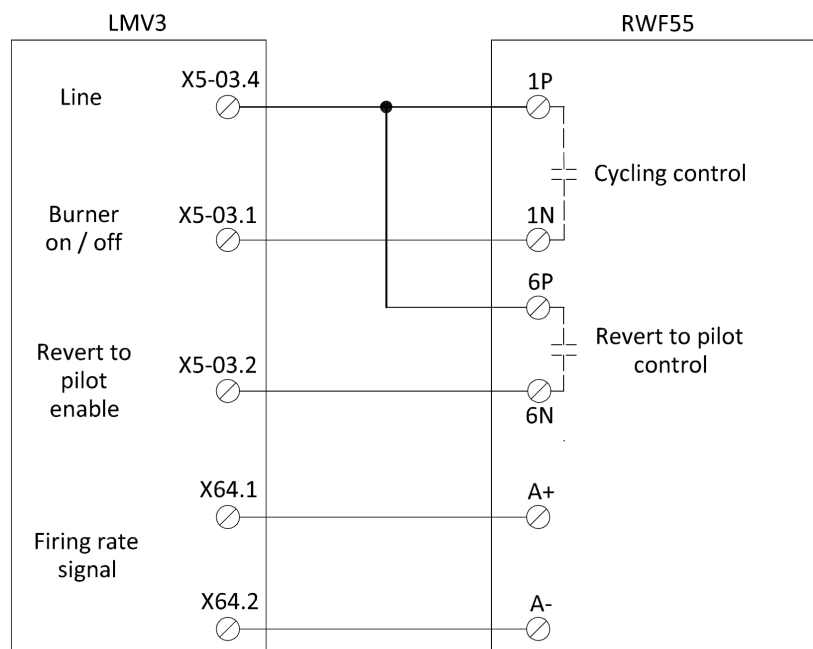

Figure 14: LMV3 / RWF55 Revert to Pilot Wiring
1. Wire the LMV3 and RWF55 load controller as shown below in Figure 14.